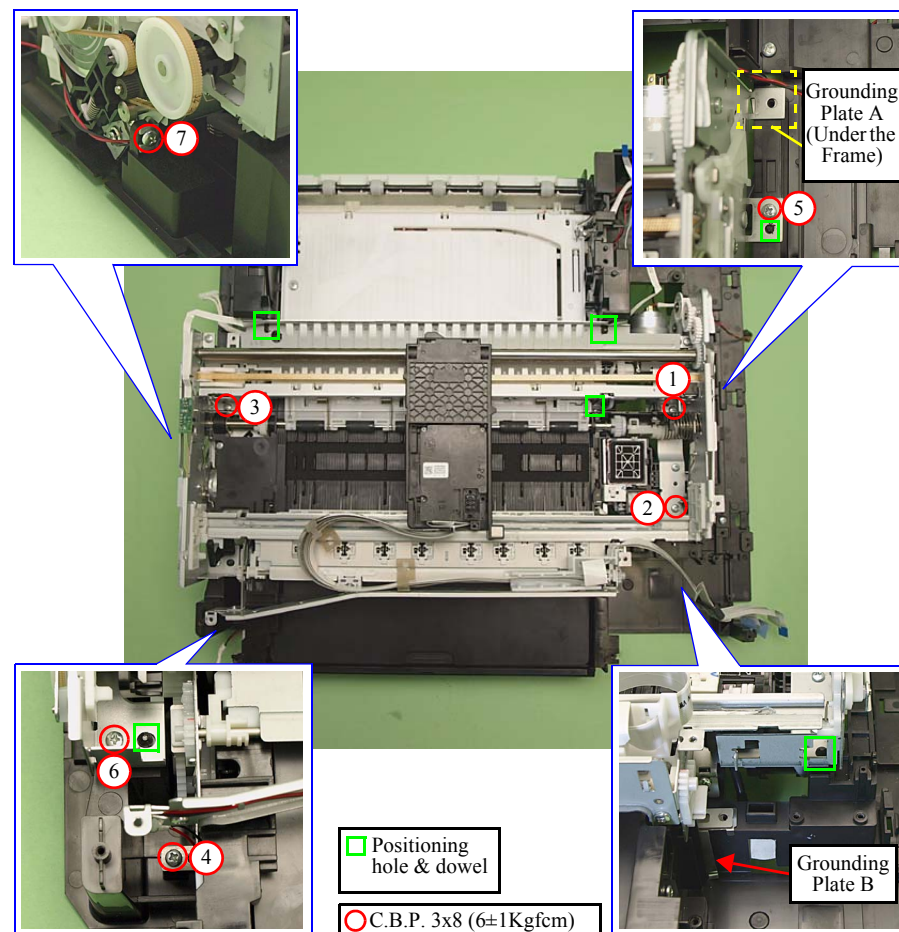
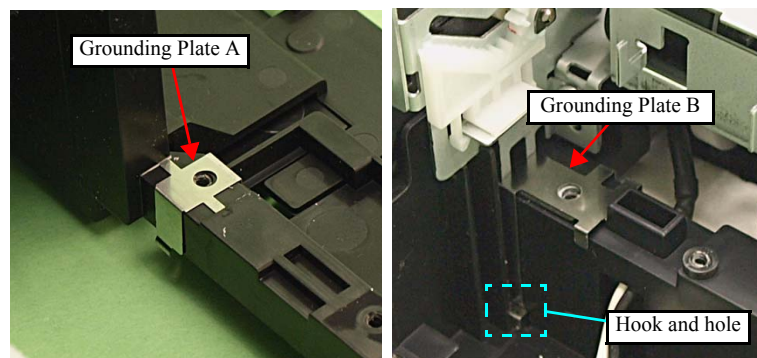

Figure 4-106. Removing the Main Frame (2)
Figure 4-107. Attaching the Grounding Plate
4. Remove the Grounding Plate B. (See Fig. 4-106.)
- Attach the Grounding Plate A between the Main Frame and Base Frame. (See Fig. 4-106, Fig. 4-107.)
- When installing the Grounding Plate B, attach the hook of it to the hole of the Base Frame, and place it over the Main Frame. (See Fig. 4-106, Fig. 4-107.)
- Align the positioning holes (x6) of the Main Frame with the dowels (x6) of the Base Frame. (See Fig. 4-106.)
- Tighten the screws in the order shown in Fig. 4-106.